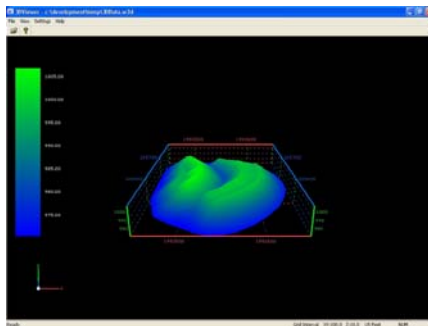

Figure 14-51. Grid Display in 3D Image
- Grid – check mark this option to display the grid on the 3DViewer screen display (Figure 14-51).